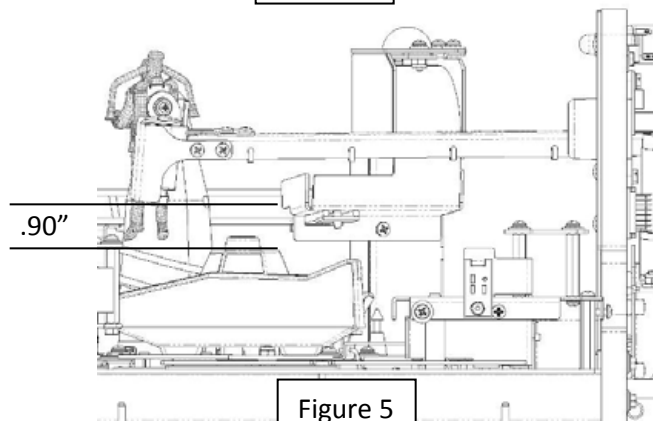

Figure 5
2. The tip of the magnet core should be .90" off the roof of the "Tank". See Figure 5.